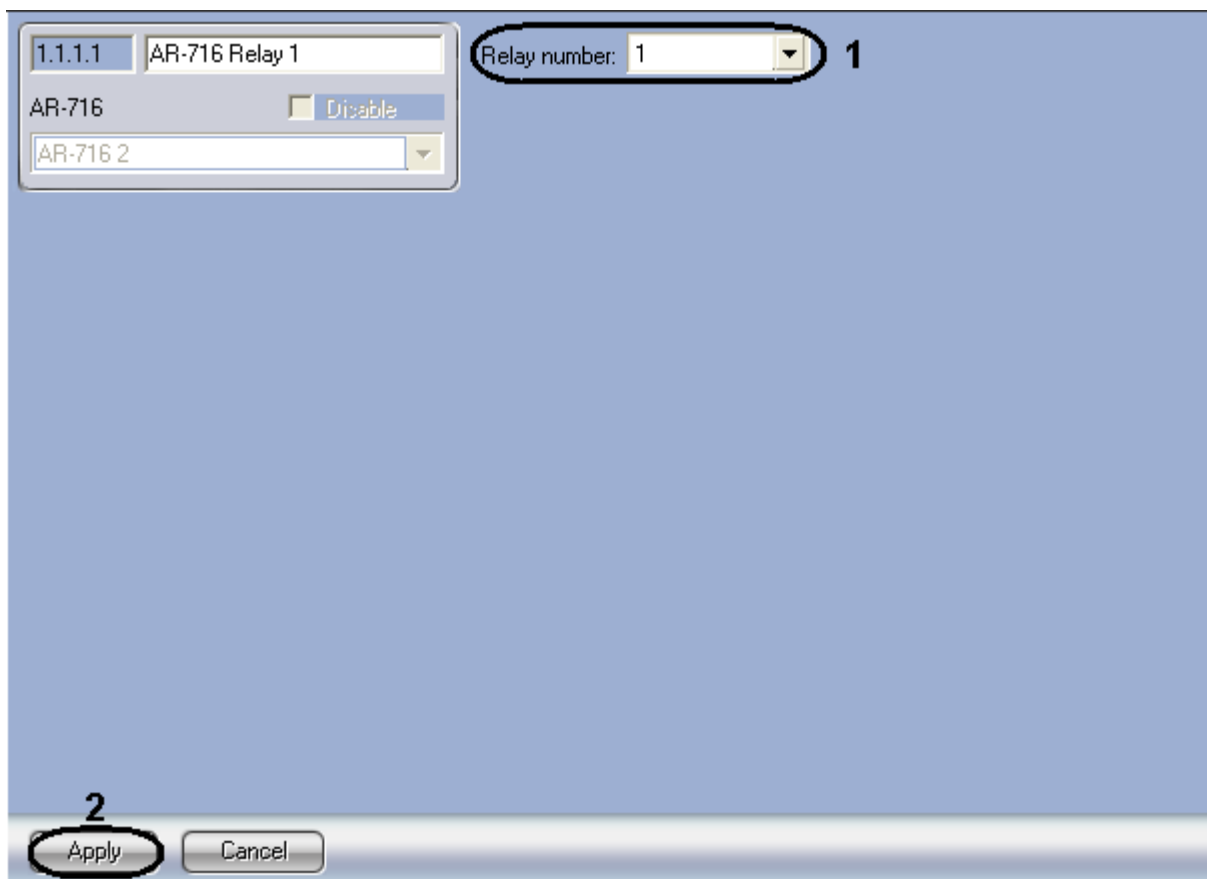

Figure 2.4—10 Settings panel of AR-716 Relay object
2. From the **Relay number** drop-down list select the number of *AR-716 Relay* object (Figure 2.4—10, 1).
3. To save changes, click the **Apply** button (Figure 2.4—8, 7).